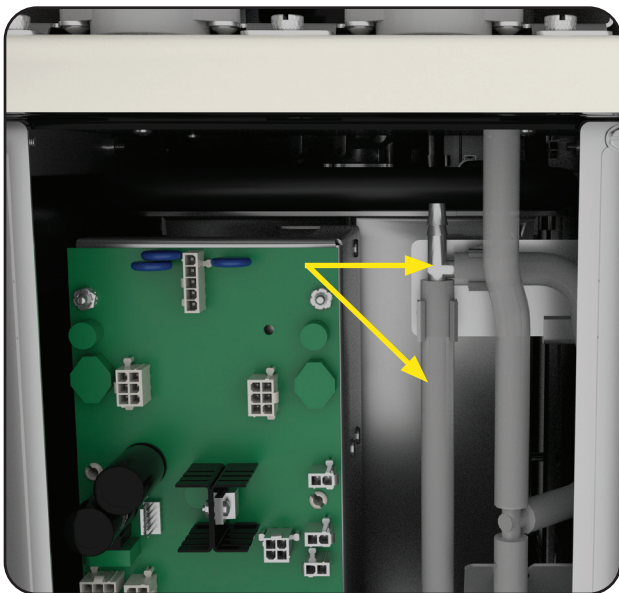

FIG.3 Sight Gauge Tube
1. Check water level in the sight gauge. Once the water stabilizes (level) in the sight gauge "T" fitting, extra water may trickle down the overflow tube into the drip tray. The compressor switch can be turned ON (Fig.3).